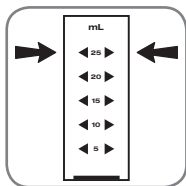

Figure 2
2. Fill the sample cup to the 25 mL mark with the sample (try to minimize turbulence). **See Fig 2.**